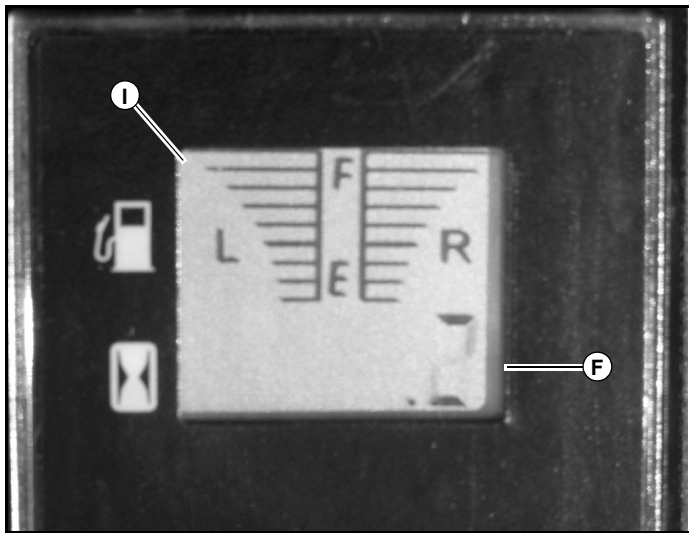

Figure 3-2
F. Electronic hour meter (Figure 3-1 & Figure 3-2) — registers 1/10 hour increments up to 9,999.9 total hours. Connected to the ignition switch, the meter records the accumulative time while the ignition key is switched to the RUN position.
I. Fuel tank gauge (Figure 3-1 & Figure 3-2) — this gauge shows the fuel level for each fuel tank. The right gauge indicates the fuel in the right tank and the left gauge indicates the fuel in the left fuel tank.